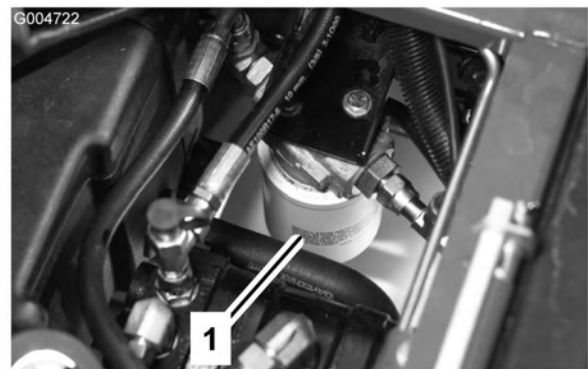

Figure 69
2. Clean the area around the filter mounting area. Place a drain pan under the filter and remove the filter (Figure 69).